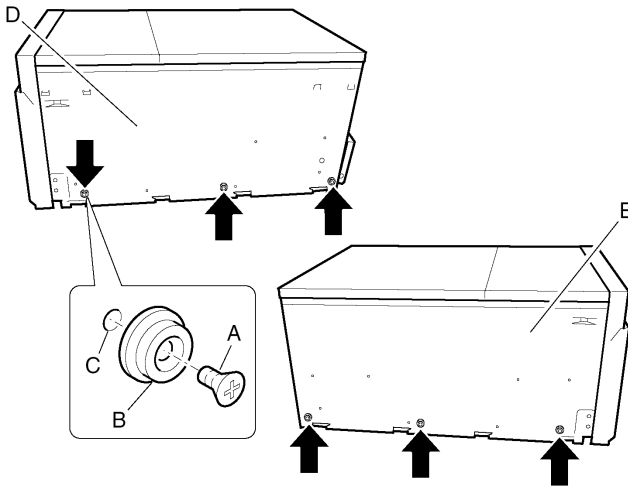
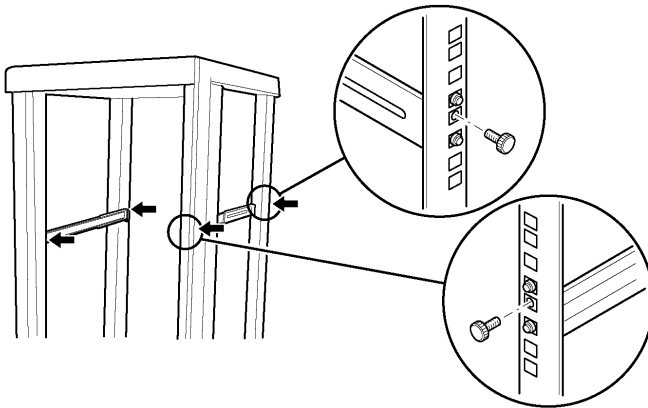

Figure 63- Installing the bushings
Figure 65 - Installing the outer rails to the rack
- 1 Insert a screw (Figure 63, A) in one of the bushings (Figure 63, B), and then insert it in a mounting hole (Figure 63, C) on the right frame wall of the chassis (Figure 63, D). Tighten the screw.
- 2 Repeat step 1 for the remaining mounting holes on the right frame wall (Figure 63, D), using the pattern indicated in Figure 63.
- 3 Attach the three bushings on the left frame wall of the chassis (Figure 63, E) in the pattern shown in Figure 65 using the same procedure described in step 1.